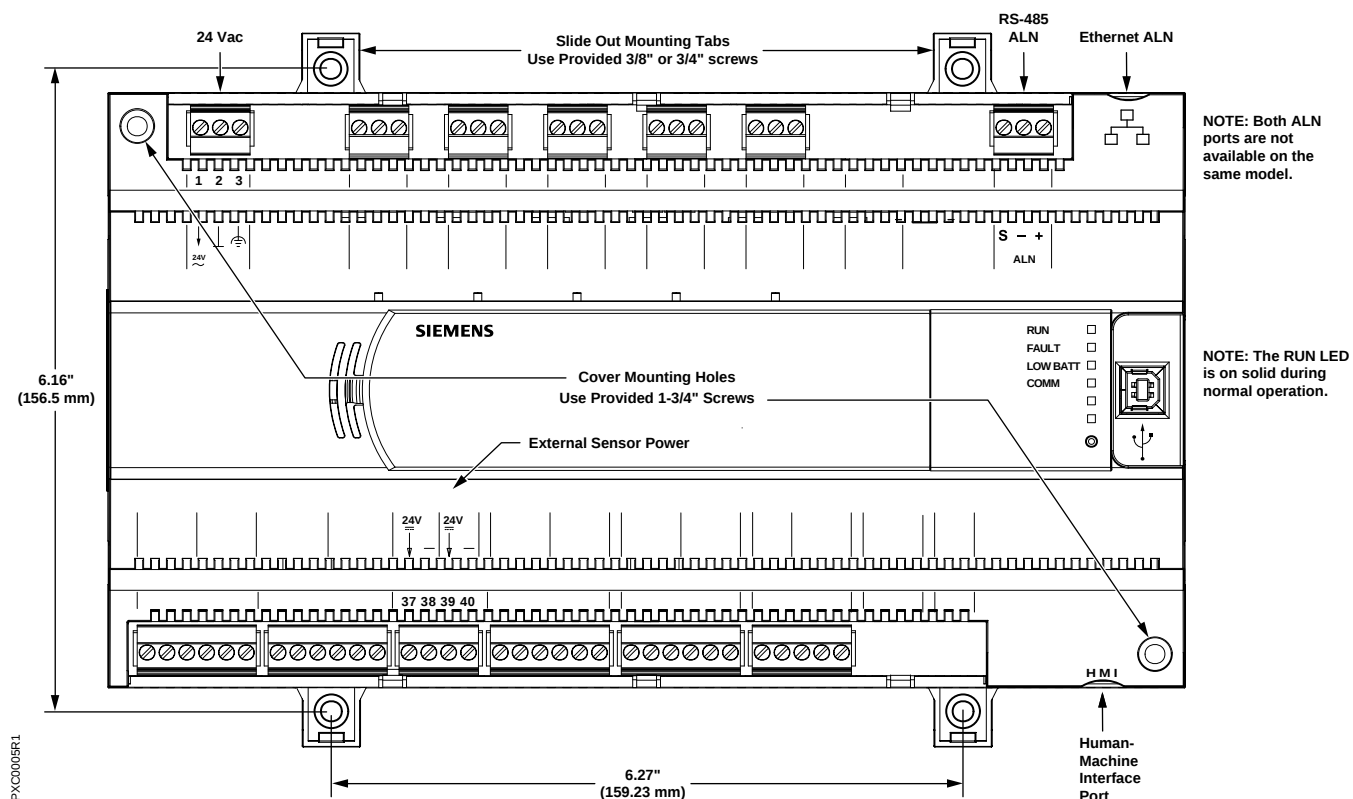
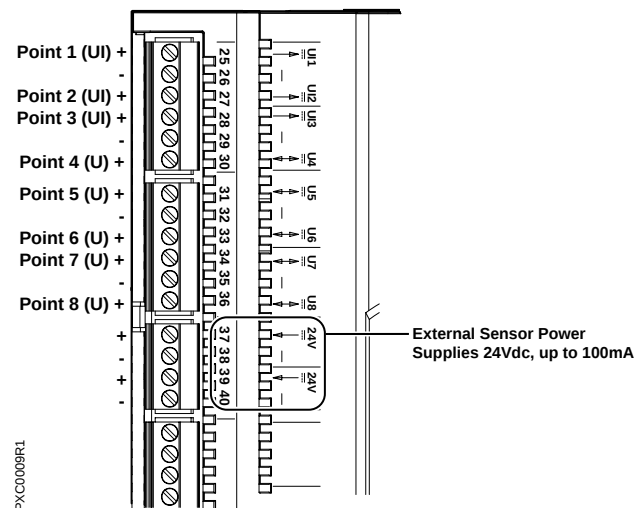

Figure 2. Front View of the PXC Compact Controller (PXC24 shown).
Figure 3. Polarity for Point Connections.
- Drive screws through the four slide-out mounting tabs (see Figure 2).
- Drive screws through the two mounting holes in the controller cover and through two mounting tabs at the opposite corners (see Figure 2).
- Terminate wires to both the 24 Vac connector and the appropriate point connectors (see Figure 2 and Figure 3).
Adjacent point connections on the PXC Compact share a Common termination (see Figure 3).